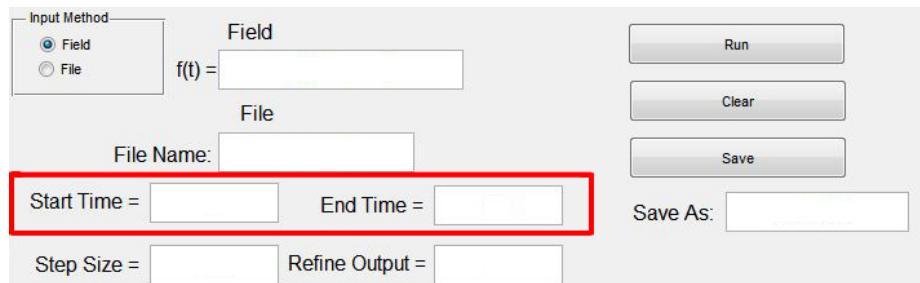

Figure 10: Type in the start and end times in the text field that is circled.
- Set the start and stop times by filling in the corresponding text fields as seen in Figure 10.